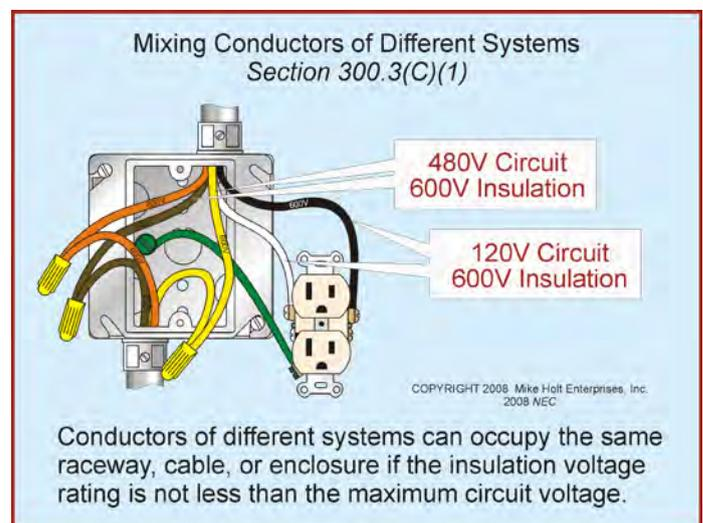

Figure 300-4
(1) Mixing. Power conductors of ac and dc systems rated 600V or less can occupy the same raceway, cable, or enclosure if all conductors have an insulation voltage rating not less than the maximum circuit voltage. **Figure 300-4**